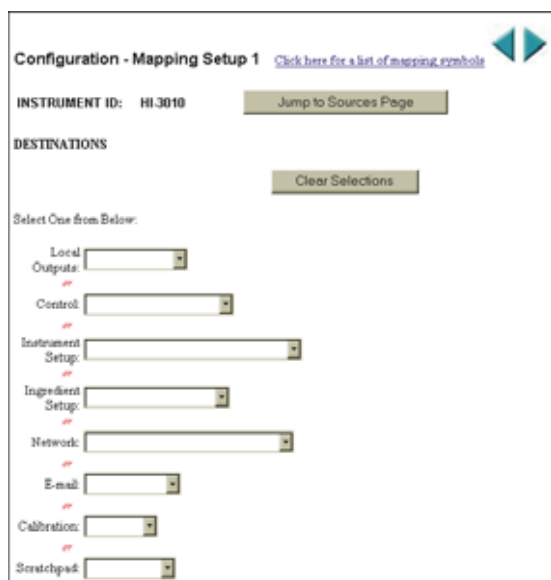

FIG. 313: MAPPING SETUP1/SENDING CUSTOM E-MAIL
Step 14. Click on Mapping Setup. The Mapping 1 Web Page appears. (See Fig. 313)